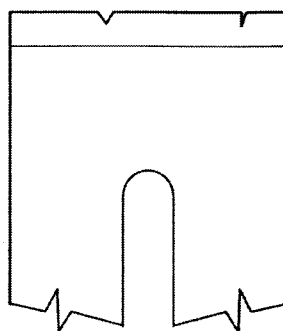

Figure 2
- 5 Figure 2 shows a defective blade of a jack plane.